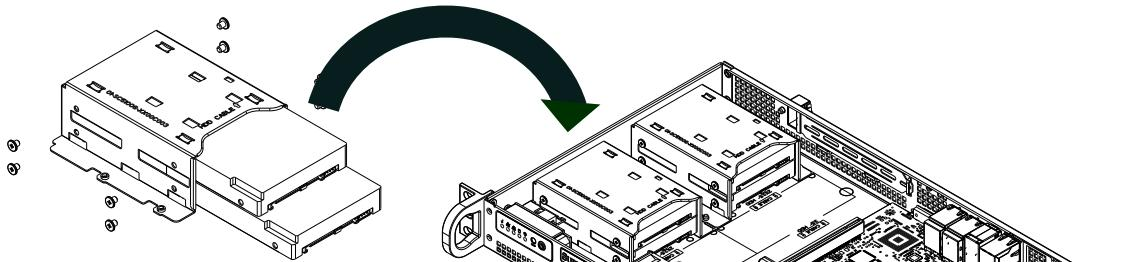
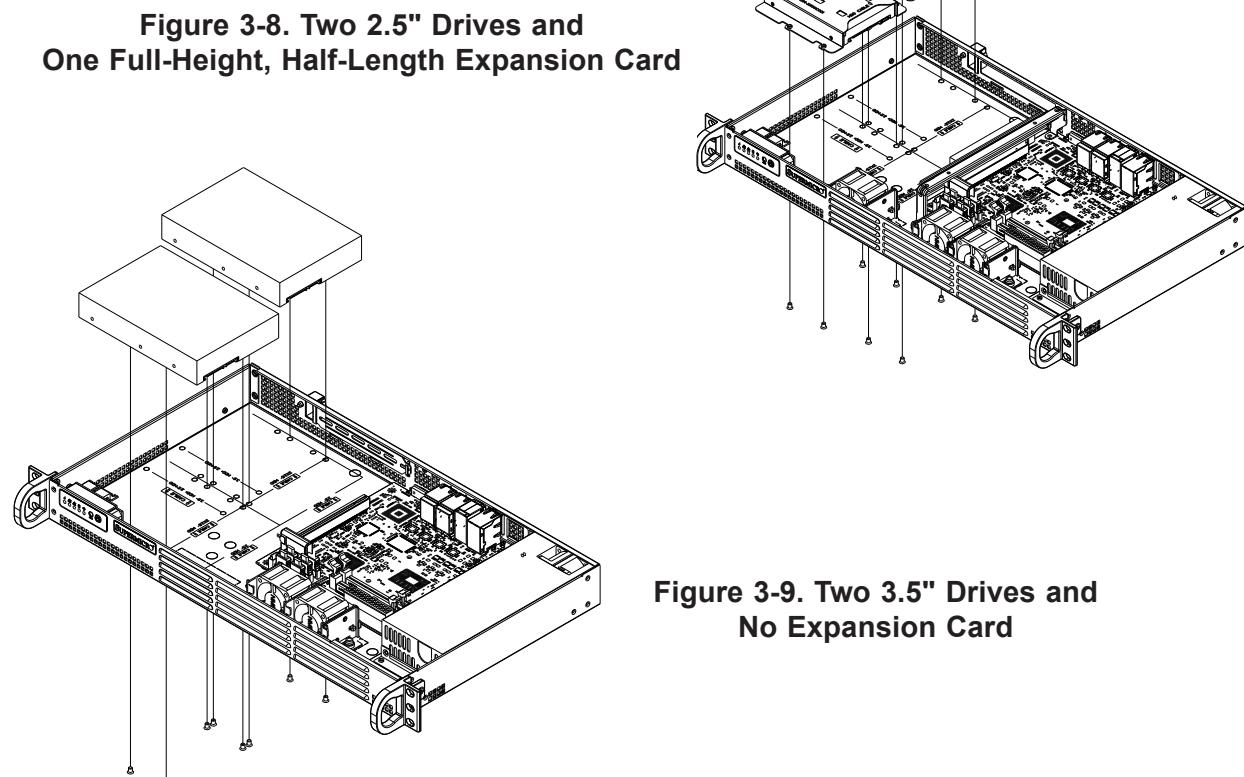

Figure 3-6. Four 2.5" Drives In Two Double Brackets, No Expansion Card
Figure 3-8. Two 2.5" Drives and One Full-Height, Half-Length Expansion Card
3. Place the drive and bracket into the chassis as illustrated in Figure 3-6 or Figure 3-8.